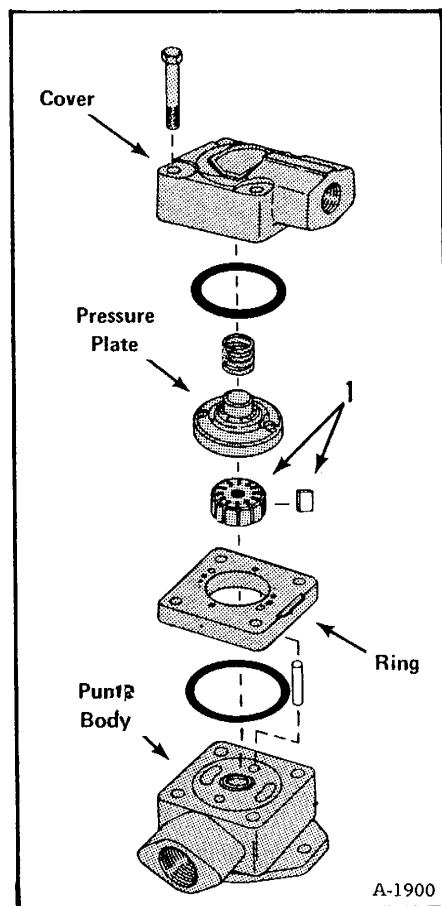

Fig. 2-15 Vane Pump Breakdown
(1) Hold the pump body in a vise (not over tightened) with the cover end up, and remove the four bolts. Note the position of the cover (outlet) port to the body port before lifting off the cover and O-ring (Fig. 2-15).
(2) Remove the pressure plate and spring. (Make a mark on the side of the pump as a guide in assembly.) Lift off the ring and remove the locating pins and O-ring.
(3) Remove the vanes and the rotor (Item 1).